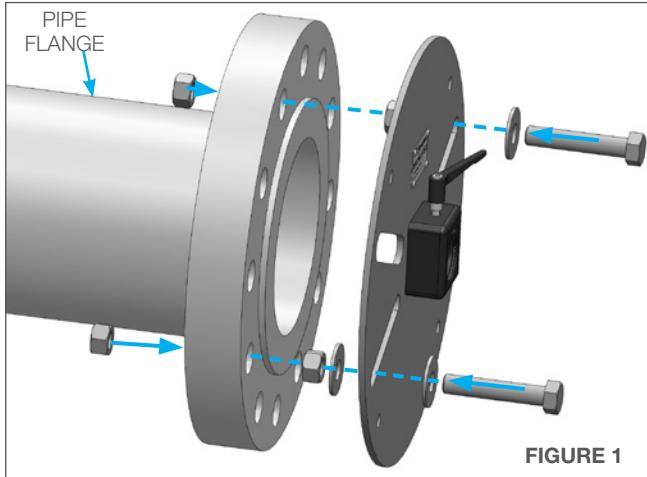

FIGURE 1
1. Attach the Quarter Plate Flange Mount to the pipe flange using the fasteners that were removed from the flange joint. The nuts shown between the pipe flange and the Quarter Plate Flange Mount are to allow for drainage. Other spacer options such as washers are acceptable. (**Figure 1**)
1. Attach the 4"-8" Flange Mount Plate to the pipe flange using the fasteners that were removed from the flange joint. The nuts shown between the flange and the Flange Mount Plate are to allow for drainage. Other spacer options are acceptable. (**Figure 1**)